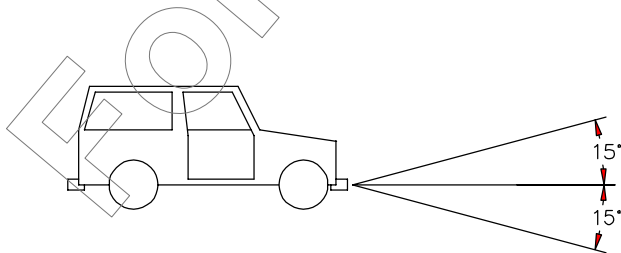

FIGURE 2
- 15° Angle up or down from horizontal (See Figure 2).